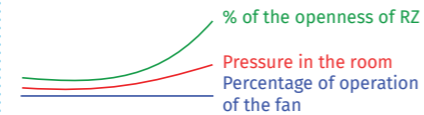

Figure 6. Trend display on the BMS system in case of failure on the exhaust part of the system
- c) failure of the exhaust part of the system (see Figure 6):